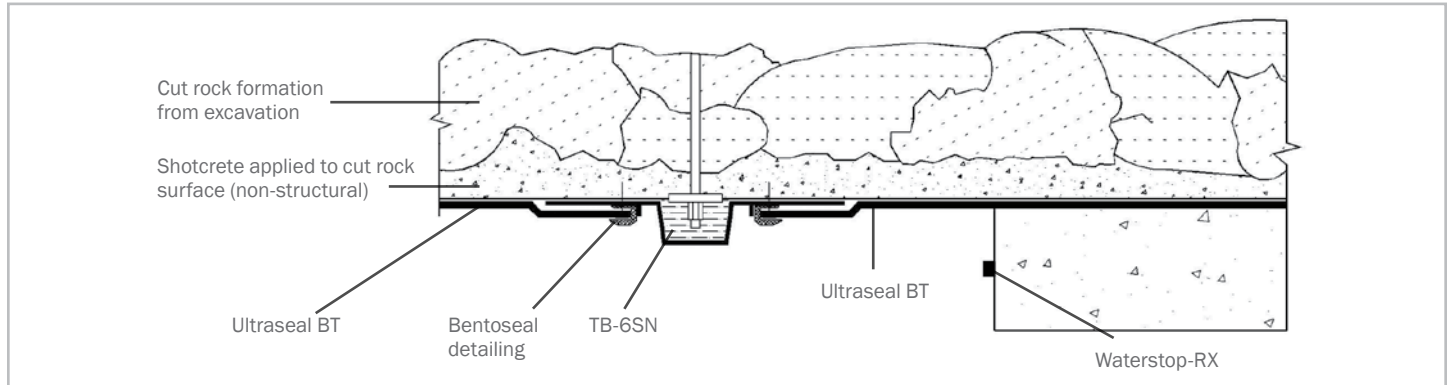
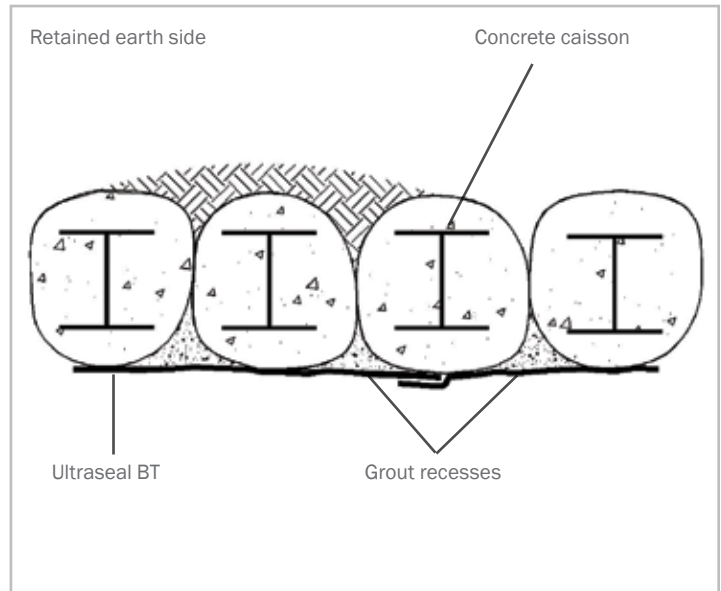

Figure 2.19 - Cut Rock excavation with shotcrete applied to provide a smooth surface for waterproofing installation.
Figure 2.20 - Fill in recesses between cast caissons with grout to provide smooth surface (Plan View).
**Preparation:** The surface of auger cast caisson and cut rock excavation walls must be sufficiently planar to provide an adequately smooth surface to apply Ultraseal BT. Ultraseal BT can be applied over large, relatively shallow indentations where it can conform tight against the surface. The surface should not contain voids or sharp protrusions in excess of 1" (25 mm). Fill all large recesses between caissons with cementitious grout prior to installing Ultraseal BT (Figure 2.20). Cut rock excavations typically require shotcrete or grout work to provide acceptable surface to install Ultraseal BT (Figure 2.19).